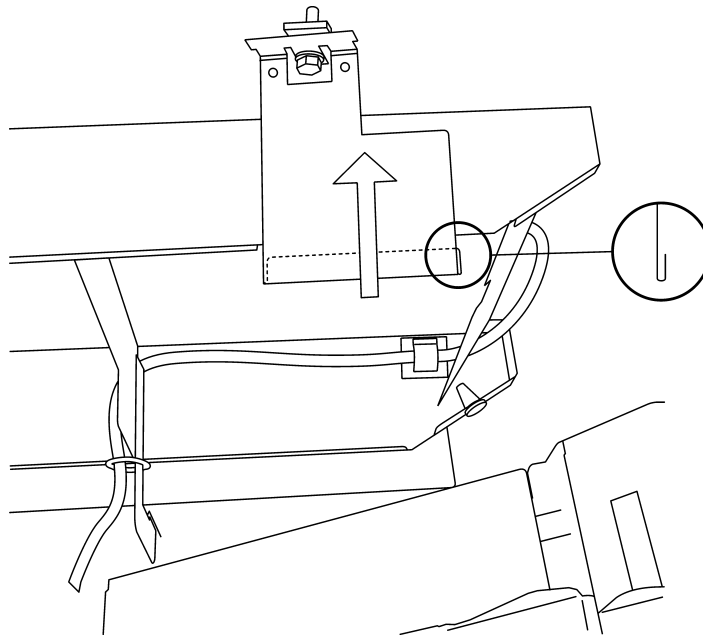

Figure 3
6. Take the Front Installation Bracket, item 5 page 1.1. Install it on the front side of the Top cover. Slide the Bracket upwards so the fold catches the edge of the Top cover, according to figure 3.